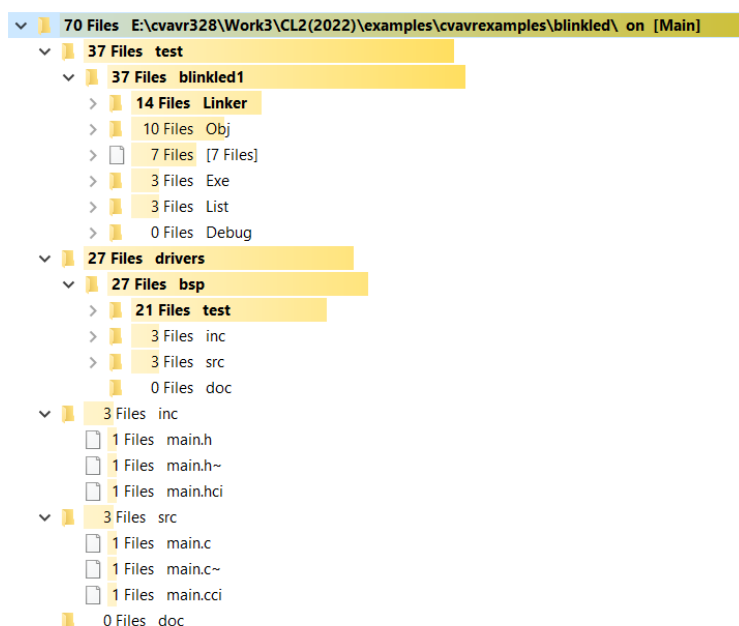
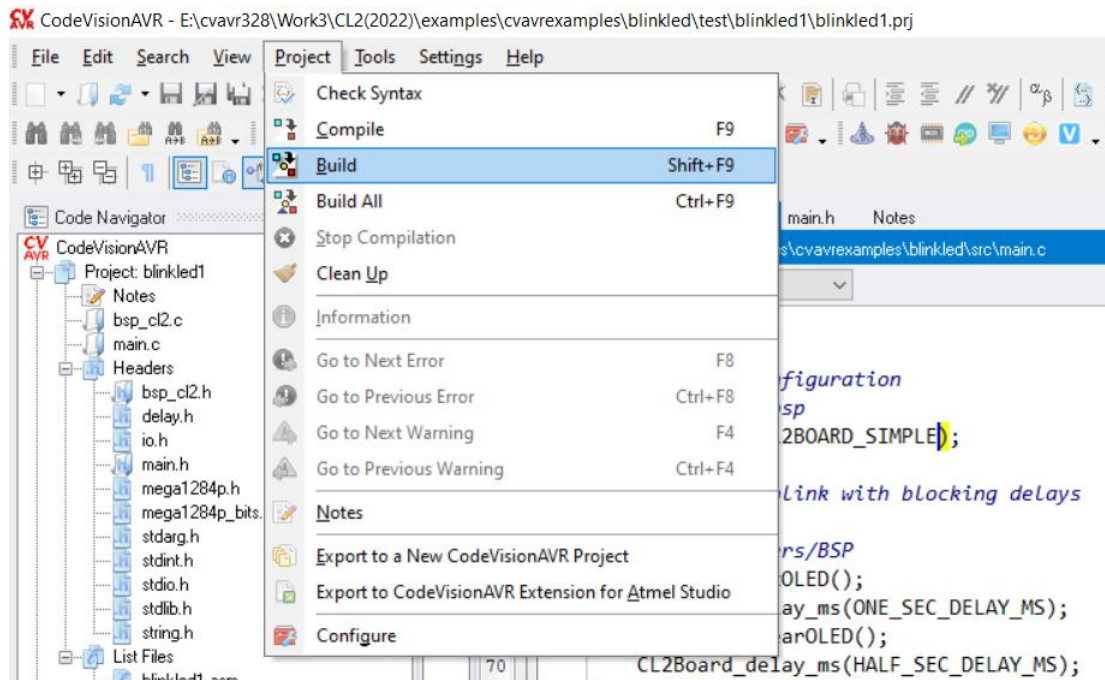
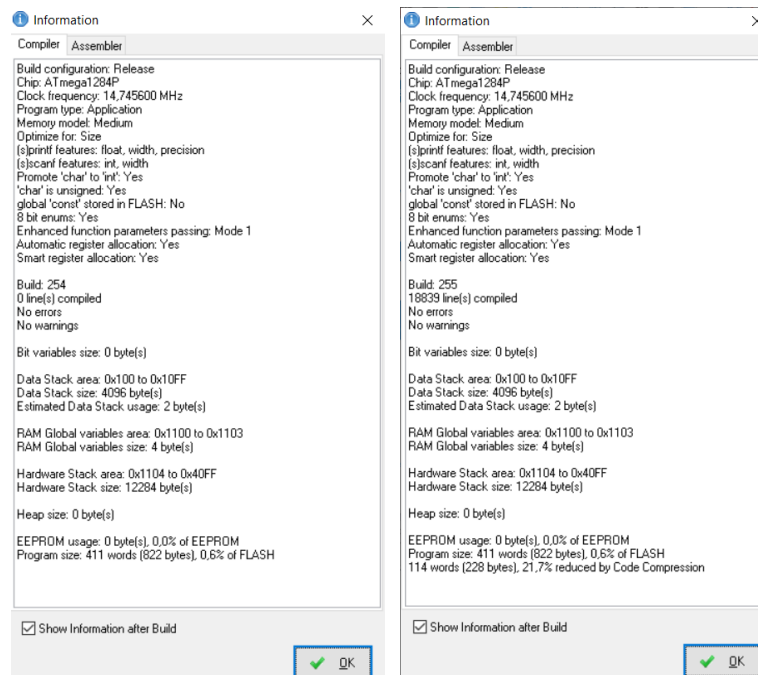

Figure 5 – Example 1 directory structure
Figure 9a – Project→ Build in the CVAVR Example 1
Figure 9b – Results of Project→ Compile (left) and Project→ Build (right) in the CVAVR Example 1
The directory structure is similar for all examples, and is shown in Figure 5. The /test/blinkled1 directory has the project files generated via the Codevision / IDE compiler (*.prj is like a visual version of Makefile) and if any automated test tool is used the testing files (e.g.Ceedling). These files are excluded from the repo with a specific .gitignore, but are regenerated when the example is rebuilt on your machine. The /drivers directory holds the specific low level routines (here only /bsp) and the /src/main.c and /inc/main.h files hold the user program.
3.a.3 Building the /blinkled1.prj: Navigate again to the **Project** menu item. Here you can compile the code, with → **Compile** (or F9 shortcut) or directly **Build** (Shift-F9) the project (Figure 9a), which will compile and link the code, regenerating the output directories and files shown in Figure 5 under /test/blinkled1 directory. The IDE produces the outputs shown in Figure 9b in the F9 or Shift-F9 cases if no errors are found.